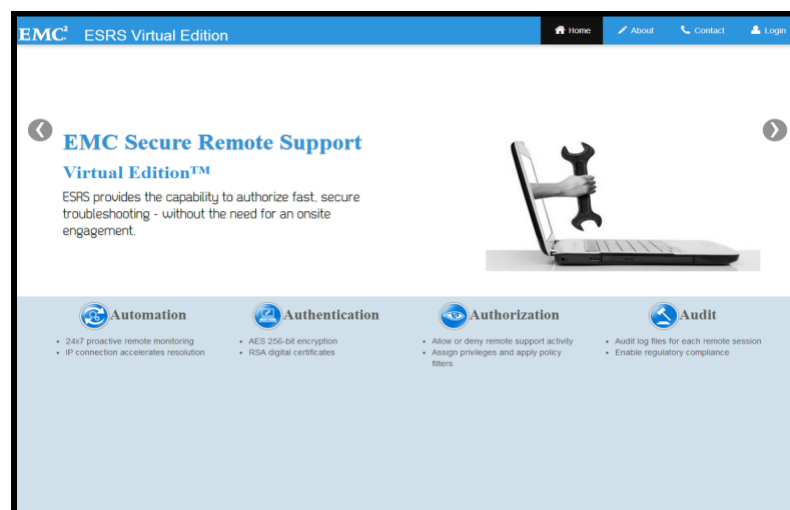

Figure 3 SRS Web UI home page
1. Launch the browser and use `https://<ip of the SRS WebUI>:9443`. The SRS home page displays, as shown in Figure 3 on page 20.